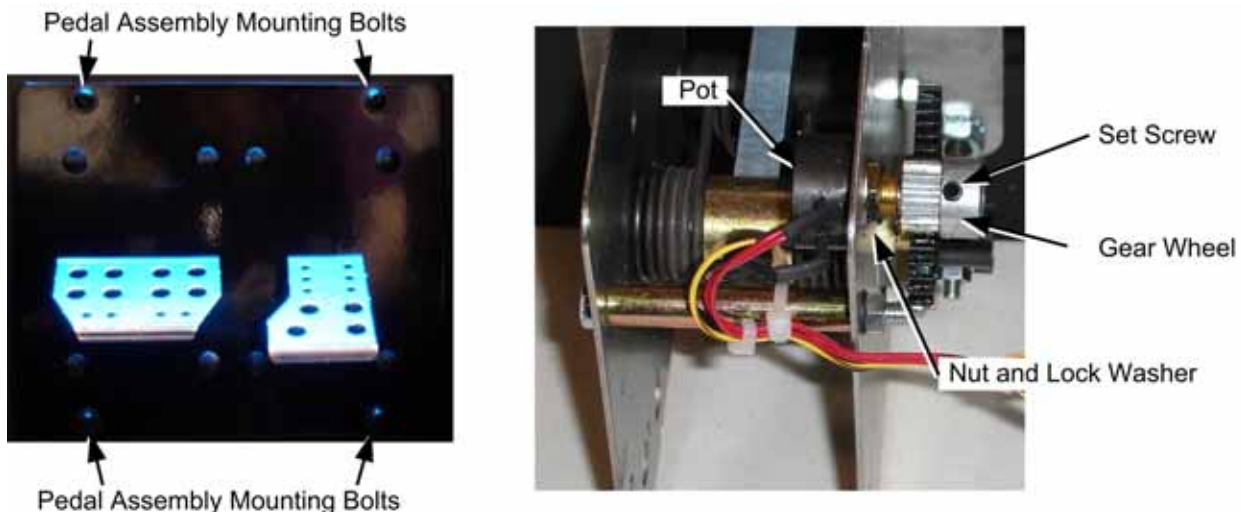

Figure 7. Pedal Assembly Details
To replace a pot, refer to Figure 7 above and perform the following steps:
1. Using a 7/64 Allen wrench, loosen the set screw from the gear wheel and remove the gear wheel, as shown in Figure 7.